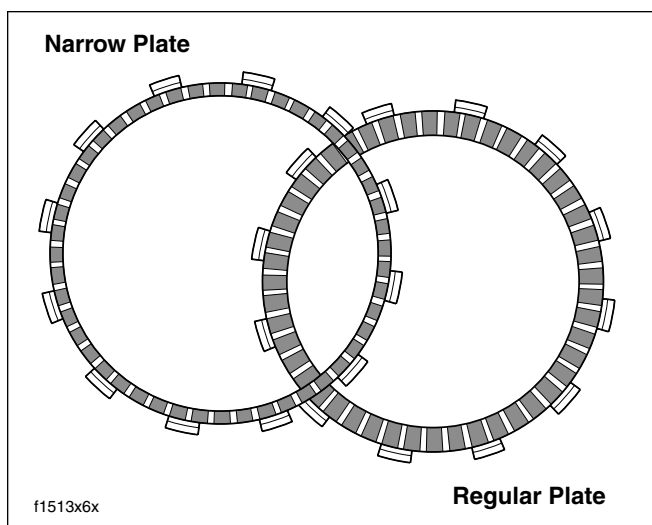

Figure 6-6. Friction Plates
7. Install the narrow friction plate on the clutch hub engaging tabs on plate with slots in clutch shell. See Figure 6-6.